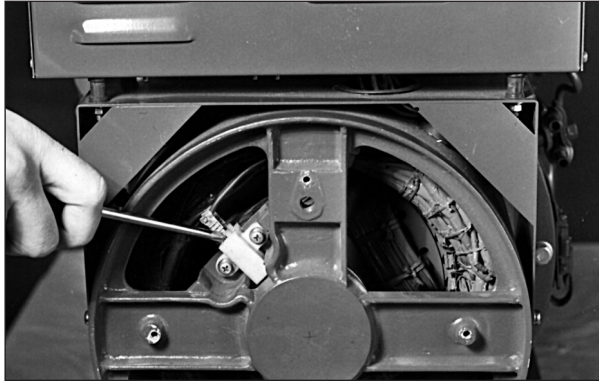

Figure 28: Brush Location.
- b. Brush assembly is white plastic with two wires leading to it. It is located at ten o'clock and is held in position by two screws (Figure 28). Remove the screws and unplug leads.